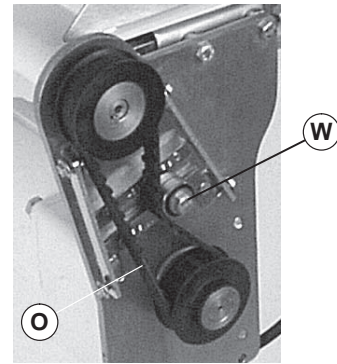

Figure 21
2. Loosen tensioner (Figure 21, item W).